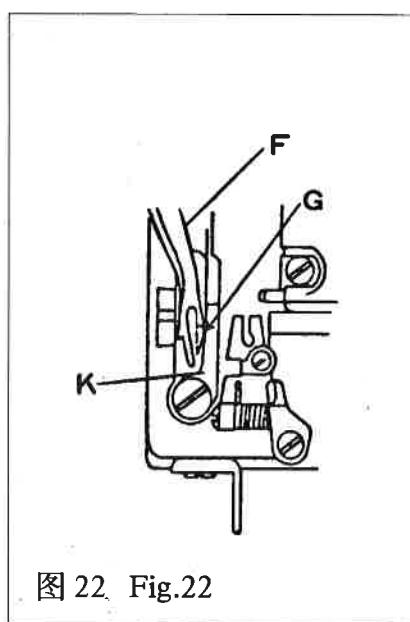

图 22 Fig.22
②转动手轮,检查钩线叉“F”运动到机针护板“K”的最近点“G”时是否相碰(图22)，如果相碰必须将偏心支承套向左作微量调整。
② Turn handwheel to make the pronged thread hook "F" move towards the nearest point "G" on needle guard "K" (Fig.22), if "F" comes into contact with "G", fineadjustment of the eccentric supporting sleeve shall be made.